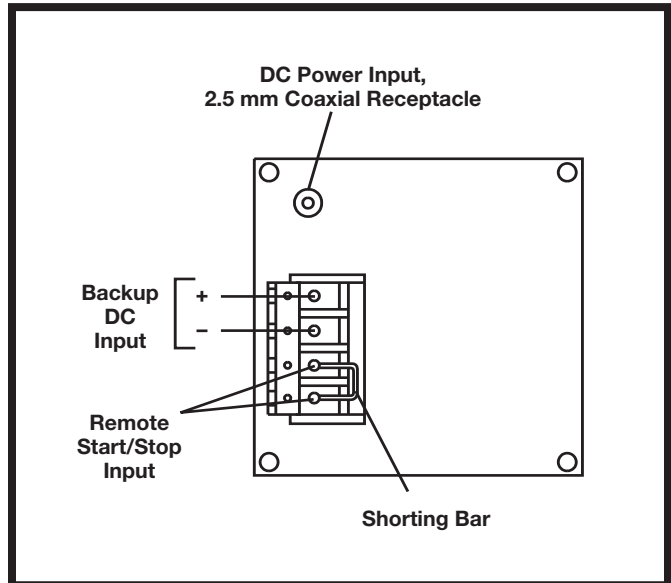

Figure 3. Pump — Rear Panel
The rear panel, *Figure 3*, contains a DC power input jack for connection of primary power and a 4-terminal barrier strip for connection of remote start/stop and for a DC backup supply.
**Remote Start/Stop:** Terminals 3 and 4 on the rear panel terminal strip, (*Figure 3*) are used for remote start/stop operation. Pump direction and speed are not remotely controllable. In non-remote operation, these terminals are connected together by a shorting bar. For remote control by switch closure, remove the shorting bar and connect the two terminals of an isolated remote control switch or relay to terminals 3 and 4. A closure of the remote switch contacts will turn the pump system on. Opening the contact will turn the pump system off.